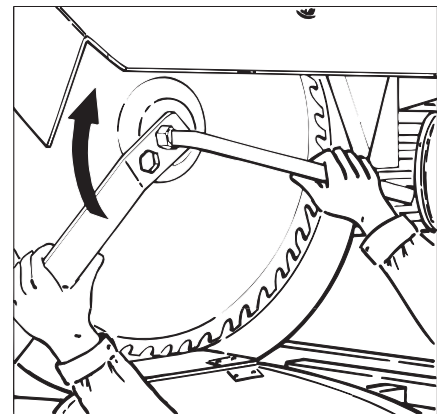

Fig. 24
- Open lower case using suitable tools. Remove blade by releasing lock nut with special spanners provided Fig. 24. Note that as lock nut is left-handed you turn clockwise to unscrew. To keep your hands free, wedge lock spanner against riving knife bracket.